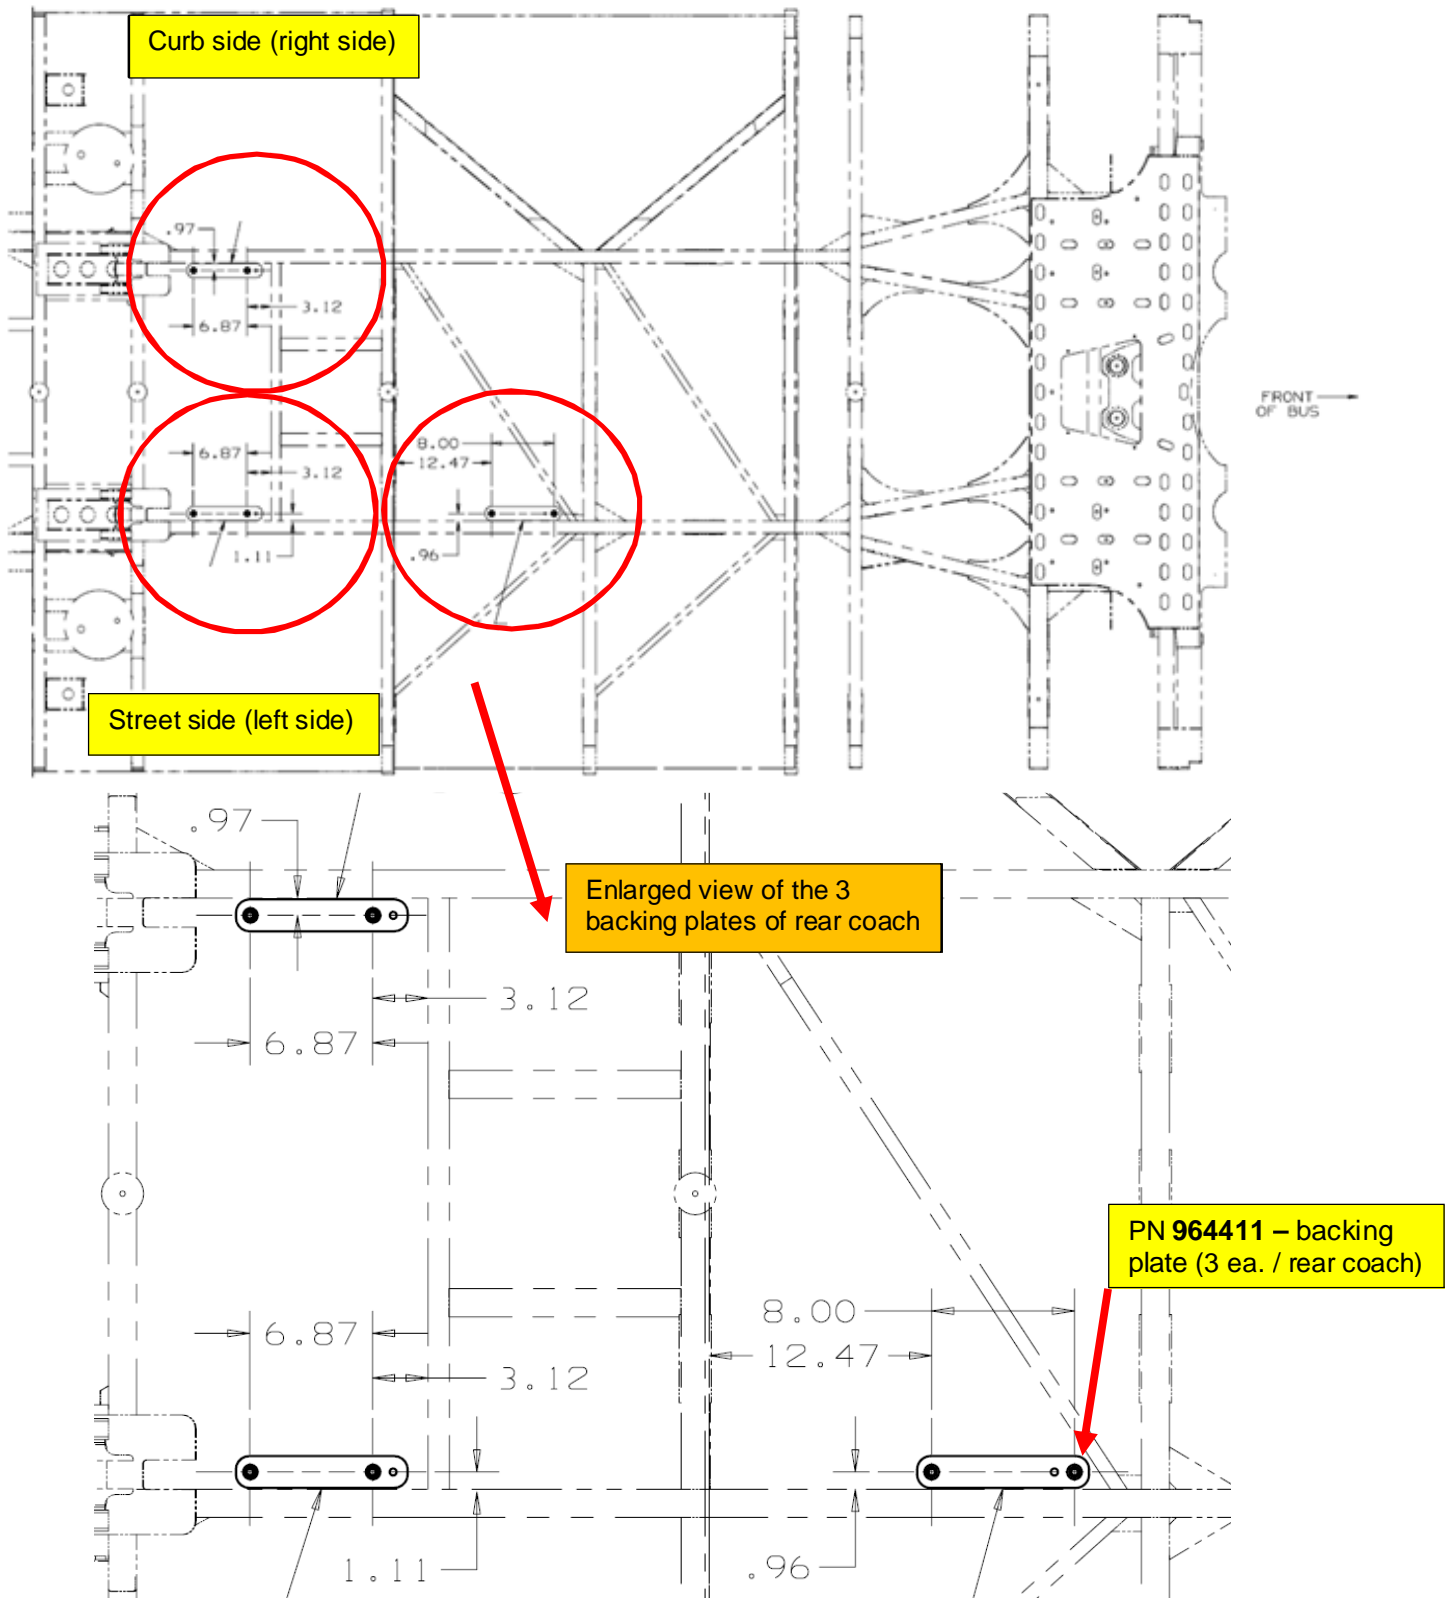

Figure 2: Locations of the 3 backing plates at the rear coach
- e. Apply a bead of Sika 221 adhesive (PN **055701**) around the inside perimeter of the backing plates and bond them to the bottom side of flooring as show on the drawings below. Refer to Figures 2 and 3.